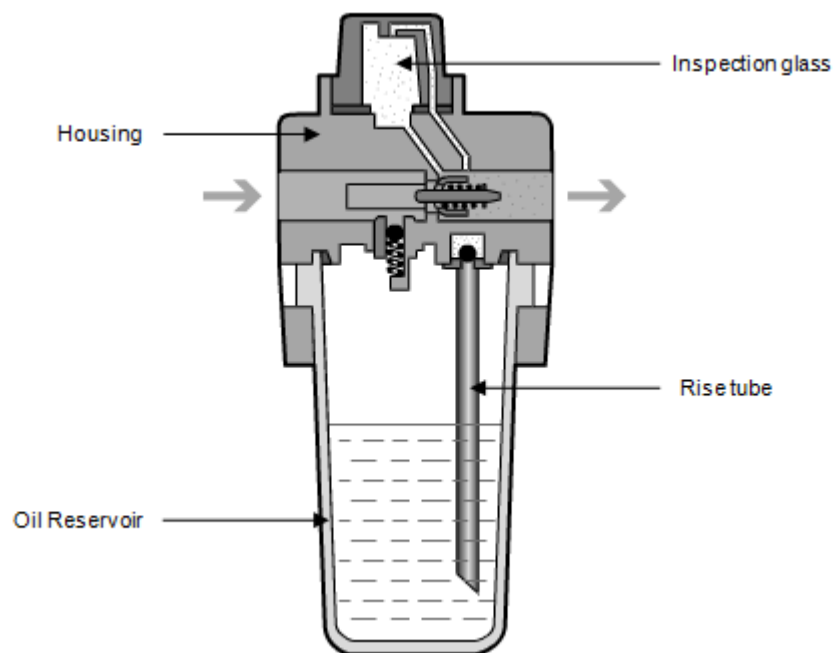

FIG 7.
A. The lubricator consist of the following components: (Fig 7)